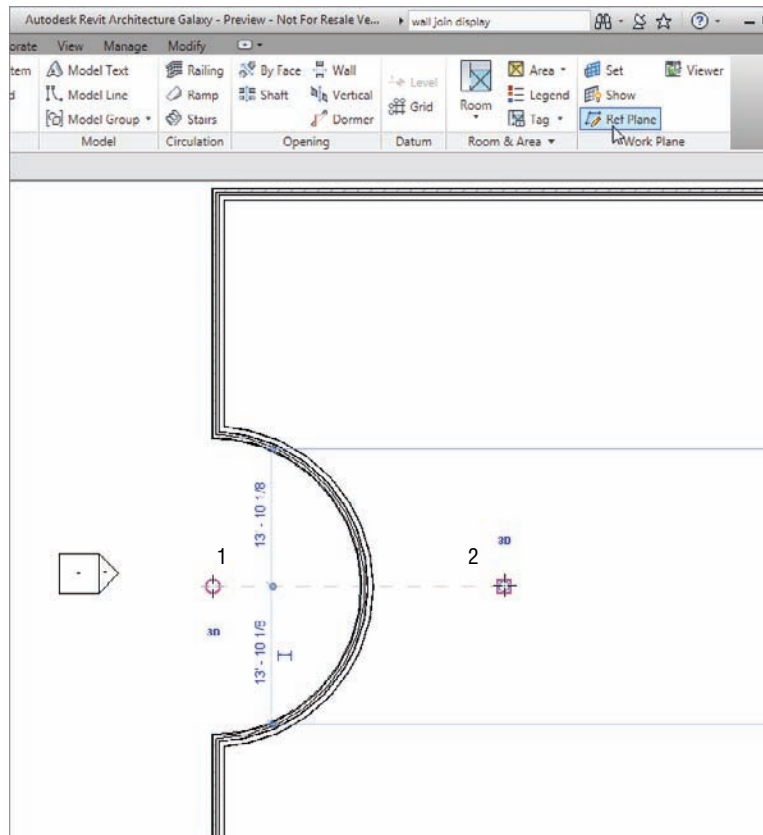

FIGURE 4.7 Establishing a reference plane
3. You are going to add a new reference plane and rotate it by 45 degrees. To do this, in the Home tab click Ref Plane in the Work Plane panel (see Figure 4.7).
5. For the first point, pick the center point of the radial wall, as shown in Figure 4.7.
6. For the second point, pick a point horizontally to the right, outside the radial wall (again, see Figure 4.7).
WARNING Be careful when you rotate items in this fashion. Figure 4.7 shows the second point extended past the radial wall, and that is where you generally want it. However, watch out for your snaps. When you pick the second point, be sure to zoom in on the area, ensuring you are not inadvertently snapping to the wrong point.